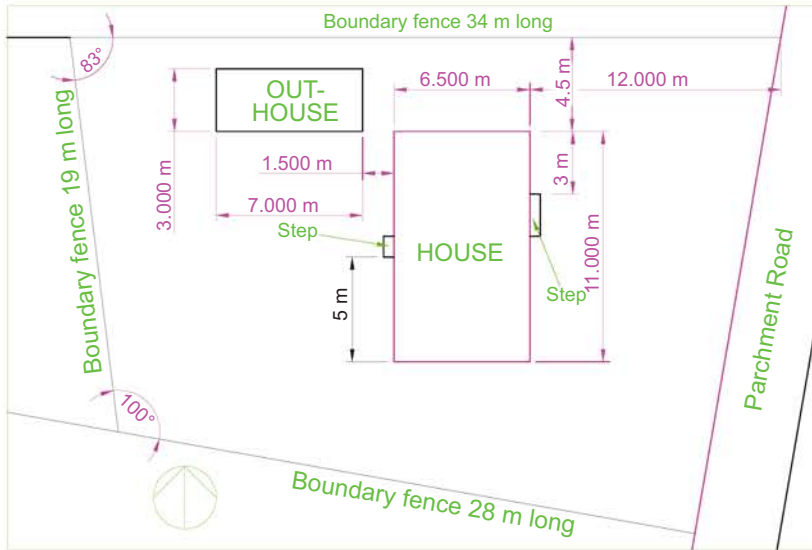

Fig. 17.29 Exercise 2
2. Fig. 17.29 is a site plan of a two-storey house on a building plot. Design and construct to a scale 1:50, a suggested pair of floor layouts for the two floors of the proposed house.